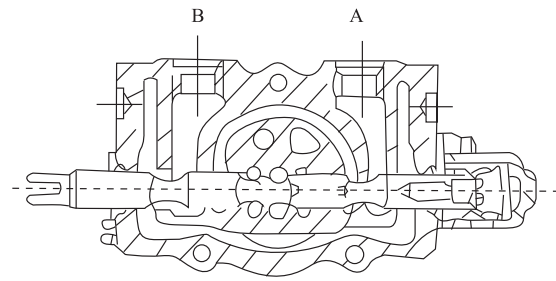

Fig. 7-6
(3) Drawing-out of slide valve(See Fig. 7-6)